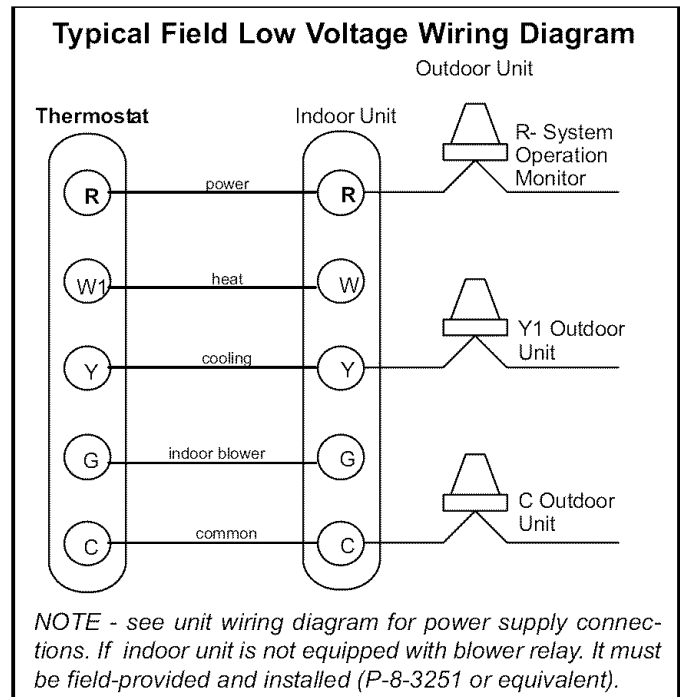

Figure 4
4. Install low voltage wiring from outdoor to indoor unit and from thermostat to indoor unit. See figure 4.